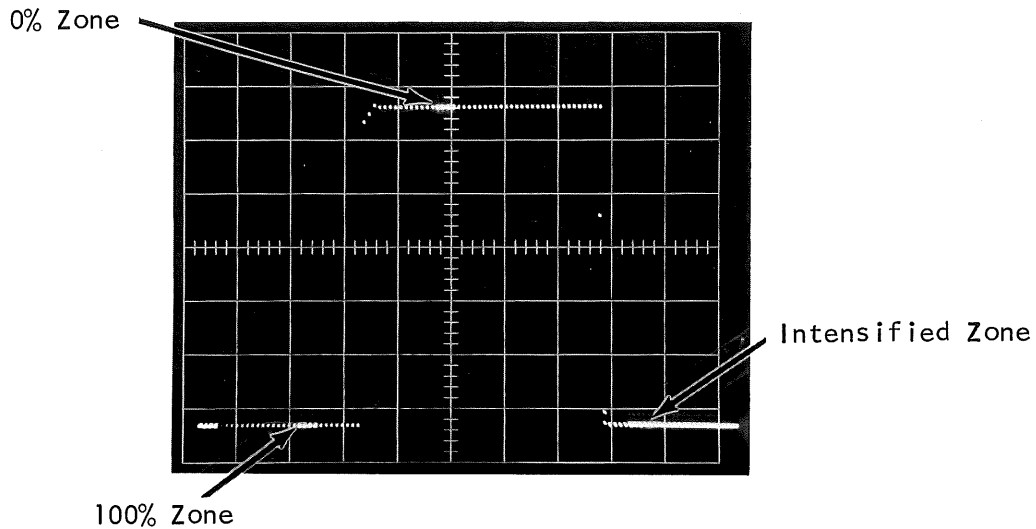

Figure 3-34
3. Set the Stop helidial to 6.08 or higher. There will be a jittery intensified zone after the first - slope. See Figure 3-34.